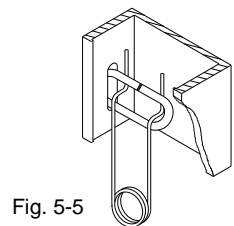

Fig. 5-5
1. Insert the leading horizontal link into its corresponding slot in the channel. Then place the chain retaining spring into the chain link as shown in Fig. 5-5. Repeat this procedure on all horizontal chains.